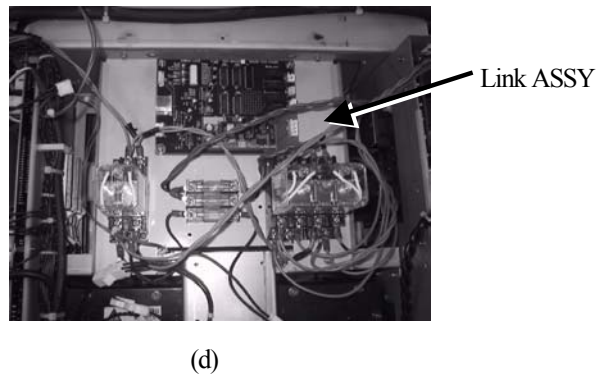

Fig. 6-14 Procedure of battery exchange
5. Remove the Fixing Plates which are fixing DR assy to the main frame. (Refer to Fig.6-14(b).)
7. Remove the six screws as shown in Fig.6-14(C) ,pull out the DR assy.
9. Disconnect the wires connected to the terminal block in the order (from No.1 to No.8) of the numbers shown in Fig. 6-14 (d). Be sure to disconnect them in order first from (—) terminal of BAT 2 (refer to Fig. 6-14 (d)).